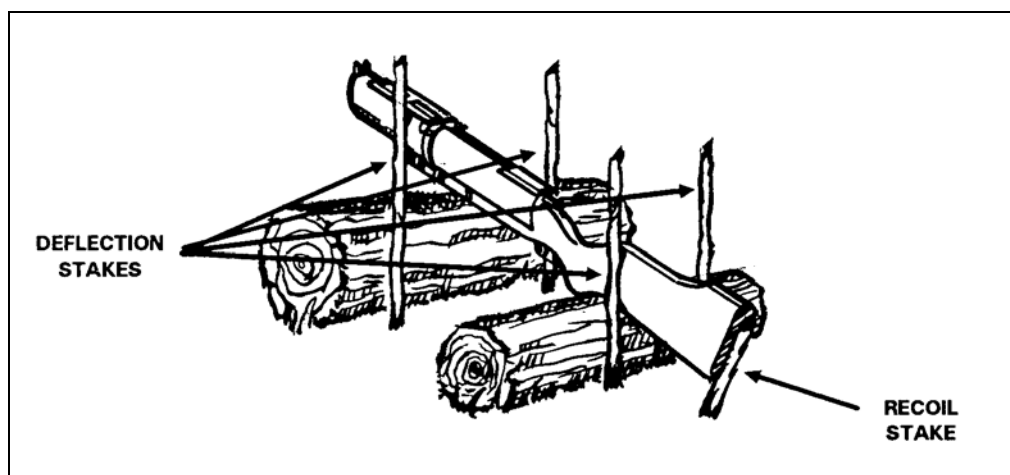

Figure A-27. Planned fires using aiming stakes.
(2) **Aiming Stakes Method.** If you use aiming stakes, you can deliver planned indirect fire (Figure A-27, page A-24). Place the aiming stakes and verify their alignment in daylight. Record planned fires on a range card or sector sketch. Then place the fore-end assembly of the weapon on top of an elevation support, scooping a slight depression out of the ground for the toe of the weapon's stock. Adjust the weapon for the range desired; then drive a stake into the ground behind the toe of the stock to absorb recoil and prevent the weapon from digging into the ground. To control the barrel's lateral movement, place two deflection stakes behind the front elevation support. Place another elevation support beneath the stock of the weapon and two more deflection stakes behind the support to control the stock's lateral movement. Place the deflection stakes closer together than the front stakes.